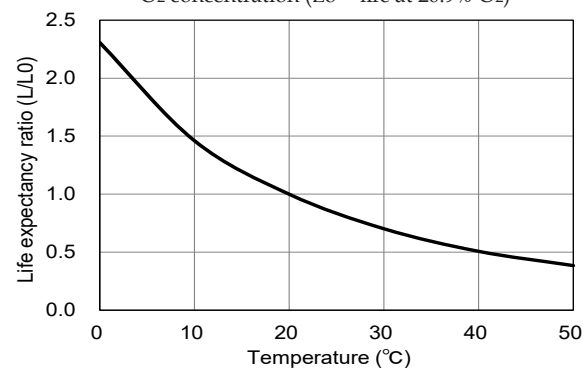

Fig. 8b - Relationship of life expectancy vs. temperature (Lo = life at 20°C)
Figure 8b shows the relationship between life expectancy and ambient temperature. The Y-axis indicates the ratio of life expectancy at a given temperature (L) compared to life expectancy at 20°C (Lo). A correlation exists between the sensor's life time and its storage temperature—the life time becomes shorter as the storage temperature increases.